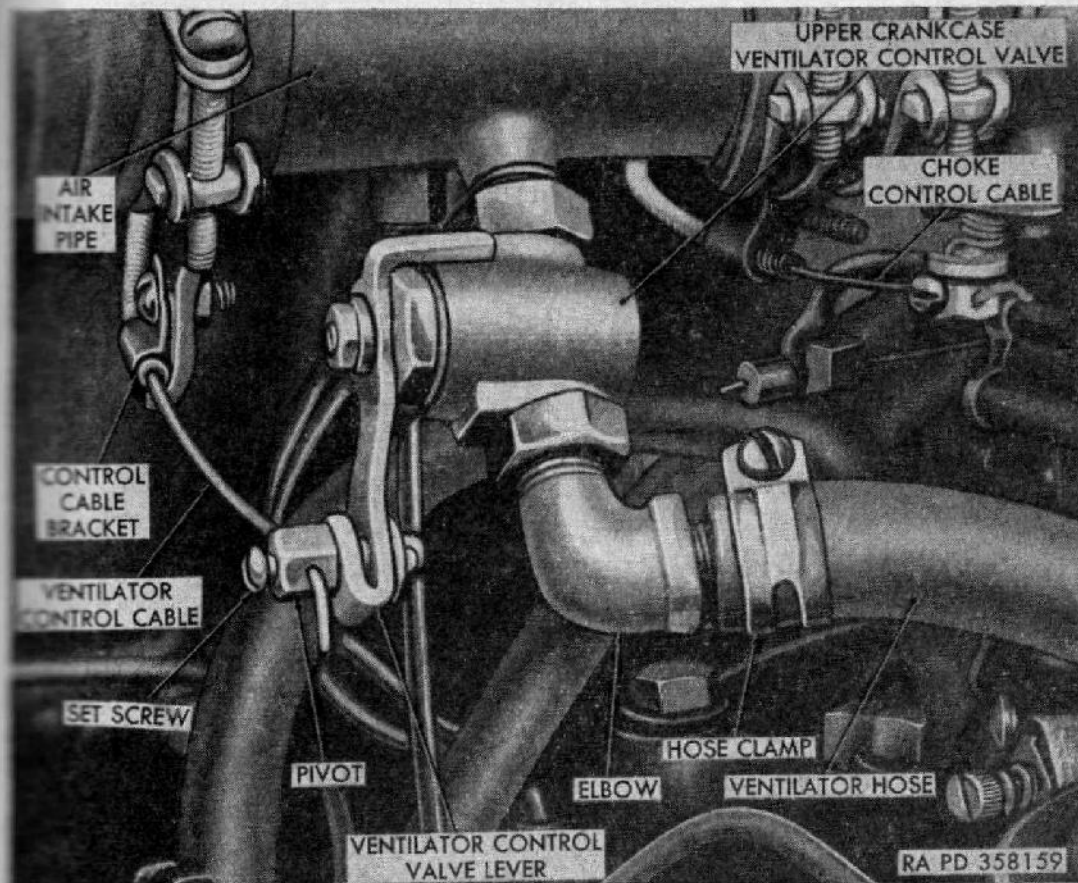

Figure 32. Upper crankcase ventilator control valve installed.
ing throttle control cable bracket (fig. 25) to carburetor and swing throttle control cable and throttle control rod out of way. Loosen set screw securing choke control cable (fig. 32) to carburetor and swing cable out of way. Disconnect ventilator control cable (fig. 25) from upper crankcase ventilator control valve (fig. 32) and control cable bracket (fig. 32) on air intake pipe and lay ventilator control cable to one side.
- (9) *Connect control cables.* Insert ventilator control cable (fig. 32) in pivot on upper crankcase ventilator control valve and tighten set screw. Secure ventilator control cable to control cable bracket with screw and nut. Connect choke control cable to carburetor and tighten screws securely. Insert throttle control rod (fig. 25) in throttle lever and install cotter pin. Insert throttle control cable in pivot on throttle lever and install cable stop, securing it with set screw. Position control cable bracket on carburetor and secure with two screws and lock washer.
#### *a. Upper Crankcase Ventilator Control Valve (fig. 32).*